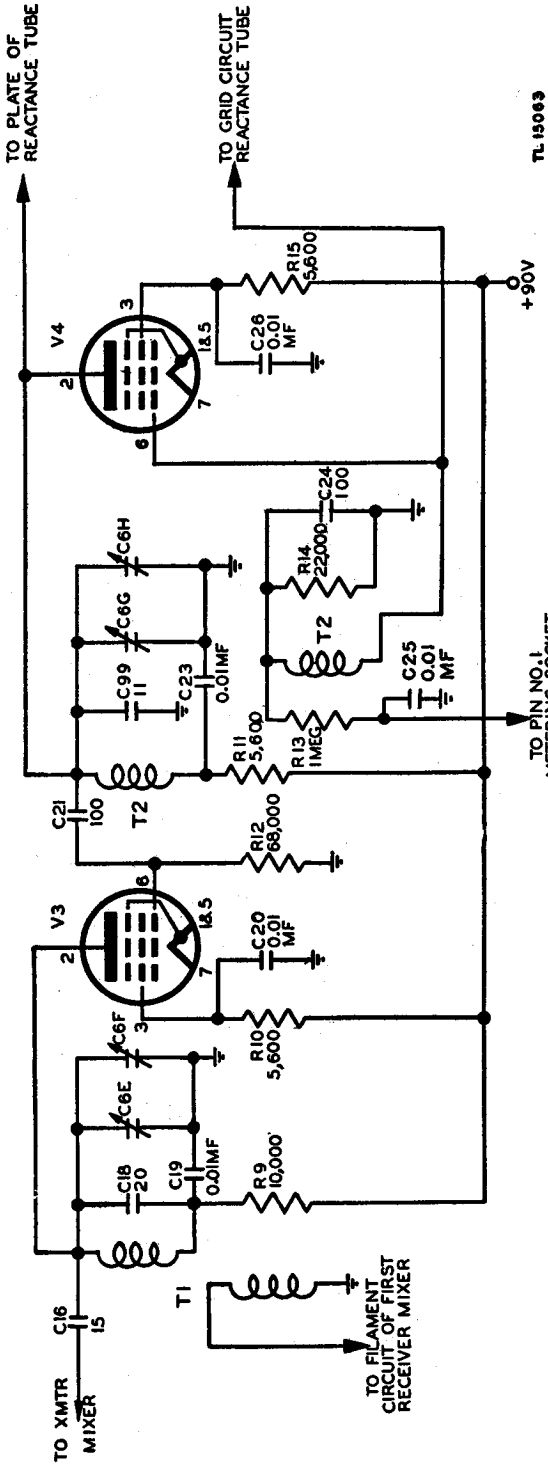

Figure 46. Radio Receiver and Transmitter BC-1000-A, master oscillator and doubler.
a. Master-oscillator (receiver and transmitter oscillator) Tube JAN-1T4, V4, and doubler Tube JAN-1T4, V3, shown in figure 46, supply the local oscillator frequency for the receiver first mixer, and the input frequency for the transmitter mixer. The frequency of the master oscillator is controlled by reactance tube V5. In the transmit position, the frequency of the master oscillator is controlled by the audio signal from the microphone; in the receive position, by the a-f-c voltage from the receiver discriminator.